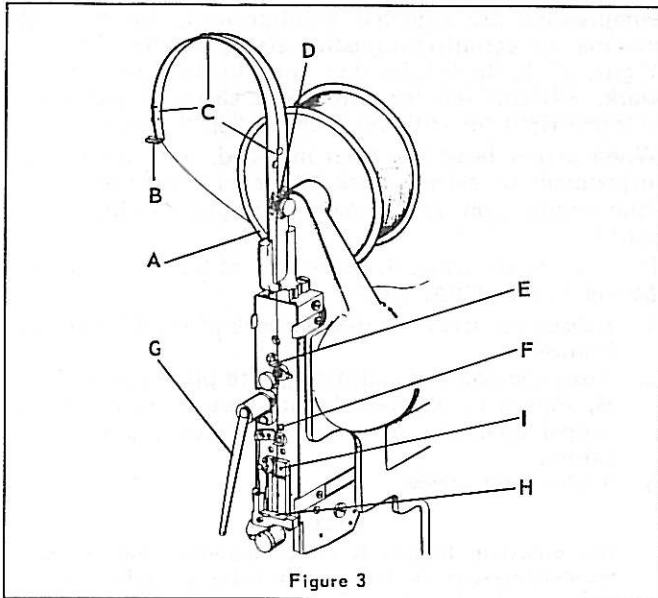
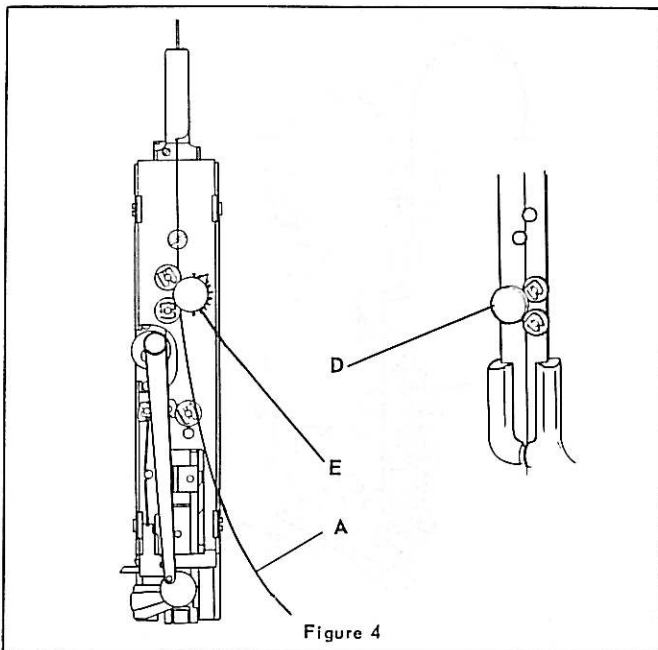

Figure 3
Figure 4
Threading the Wire: (Figure 3)
3. Adjust the upper wire straightener (Index D, Figures 3 & 4) so that the wire is parallel to the face plate. Adjust the lower wire straightener (Index E, Figures 3 & 4) so that the wire feeds to the right of the face plate (Index A, Figure 4).
4. To check adjustment, pull wire through the wire straighteners with pliers and release. The wire should curve to the right of (and parallel to) the face plate, as shown in Figure 4. Cut the wire below the tension pawl.
Adjust Wire Straighteners: (Figures 3 and 4)
Adjust nut of the upper wire straightener (Index D, Figures 3 & 4) so that wire hangs parallel to the face plate. Adjust nut of lower wire straightener (Index E, Figures 3 & 4) so wire curves to right as shown.